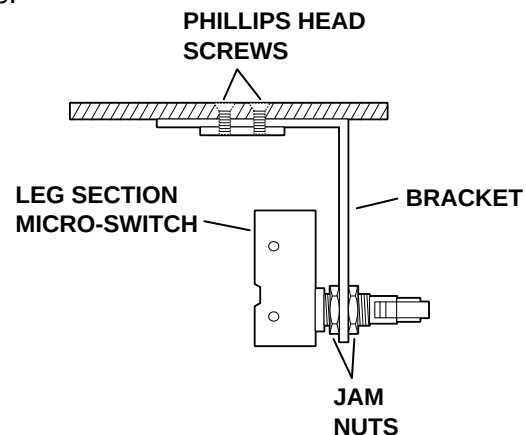

Figure 5-18. Leg Section Micro-Switch Adjustment
3. To adjust the Leg Section switches remove seat section top, loosen the 2 phillips head screws securing bracket, adjust the switch, tighten the screws and replace the seat section top. See figure 5-18.